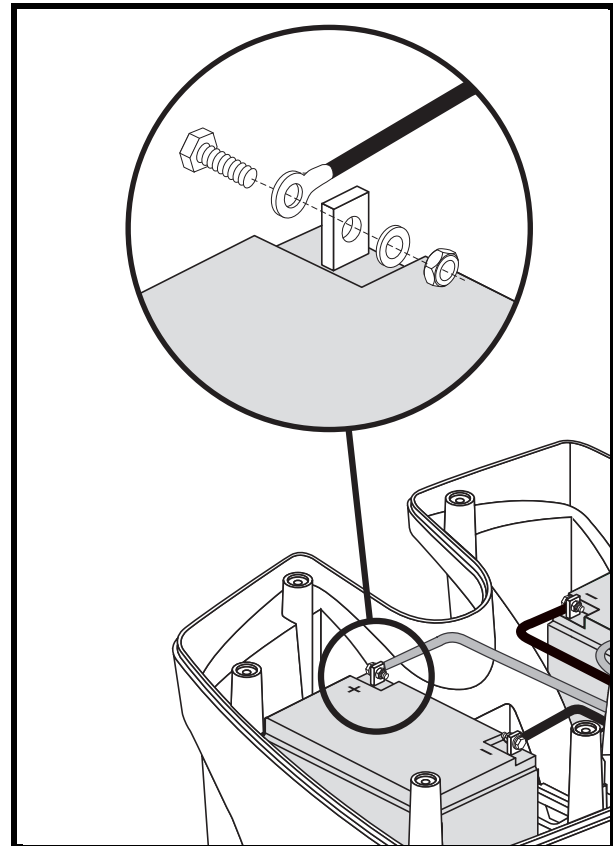

Figure 15. Disconnecting the Battery Cable on a 17-22 Ah Battery Box
**NOTE:** Some batteries require the removal of a nut and bolt when disconnecting the battery cable from the battery terminal. See figure 15.